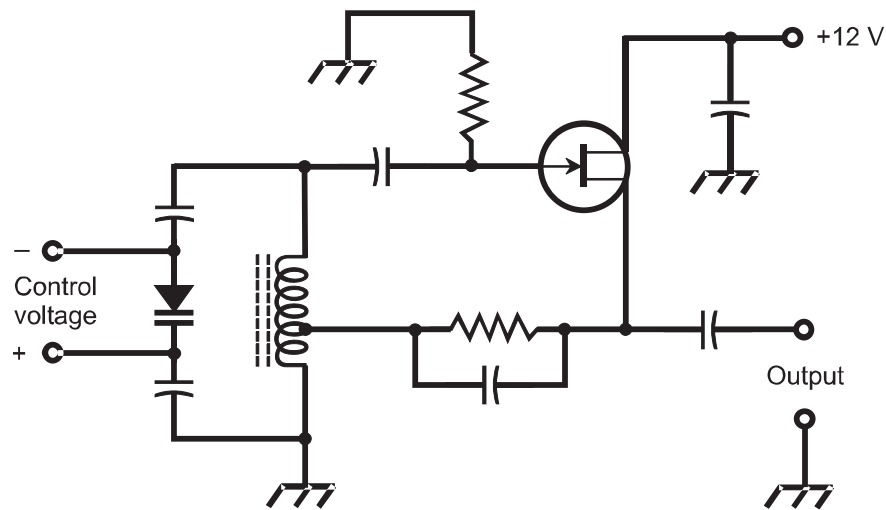

Fig. 8-9. A Hartley voltage-controlled oscillator (VCO) using an N-channel JFET.
The schematic diagram of Fig. 8-9 shows a JFET Hartley *voltage-controlled oscillator* (VCO) in which a varactor is used in place of the variable capacitor. Note the capacitors on either side of the varactor. These keep the DC varactor control voltage from being shorted to ground, either directly or through the coil.
In the oscillator circuit shown in Fig. 8-9, what would happen if the capacitor between the source and the output terminal were to open?
10. Examine Fig. 8-9. What does the “control voltage” control?